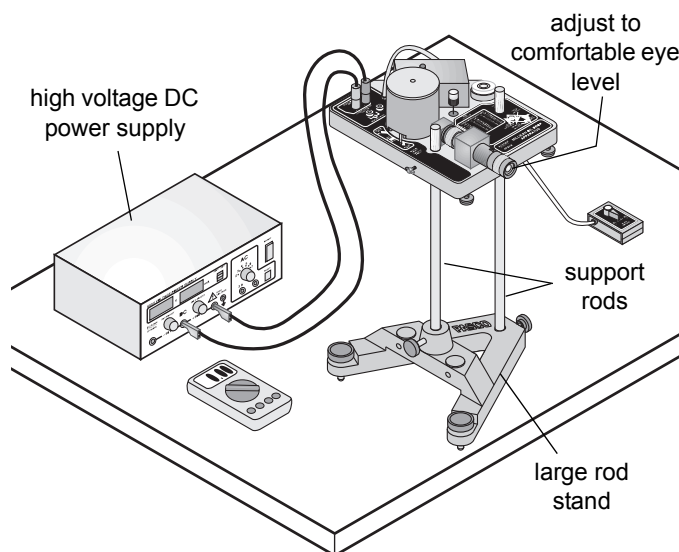

Figure 6: Equipment setup
1. Place the apparatus on a level, solid table with the viewing scope at a height that permits the experimenter to sit erect while observing the droplets through the scope. One possible setup is to mount the apparatus on two support rods (ME-8736) on the large rod stand (ME-8735). See Figure 6.